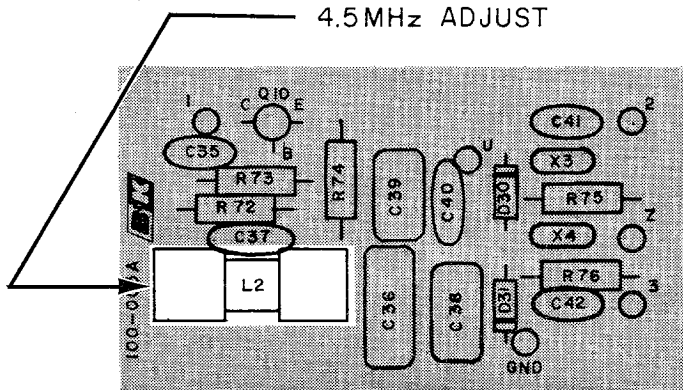

Figure 8.
1. Attach the frequency counter to the emitter of Q10 on the small PC board (see Fig. 8).